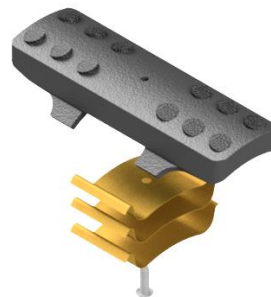

Fig. 3
**NOTE6:** Uses three (3 ea) springs per slip (Fig. 3).
I-1.2.2) Secure slip springs (11) by screwing button head screws (14) into slips (9) (Fig. 3).